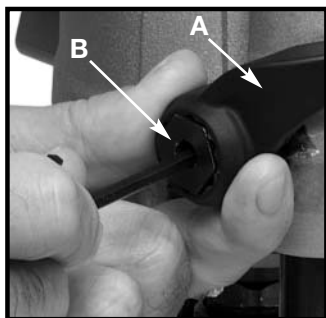

Fig. 15
1. Hold the plunge locking lever (A) Fig. 15.
2. Insert 1/8" hex wrench (not furnished) through the center of the plunge-locking bolt (B) Fig. 15 into the adjustment screw, and turn counterclockwise approximately one turn.